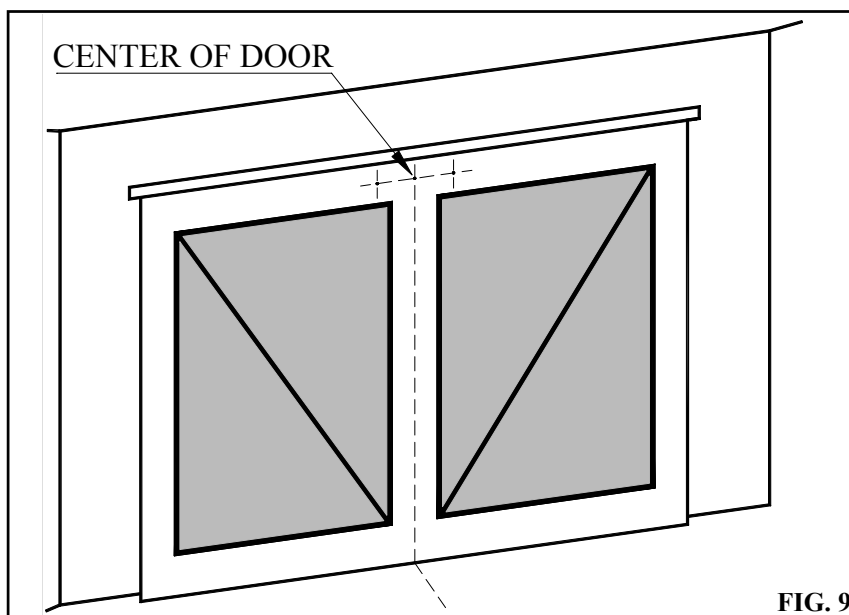

FIG. 9
Determine the centre of the door and mark this location on the wall above and on top of the door. Then draw two (2) lines 21.5mm on each side of the door. (Fig. 9)